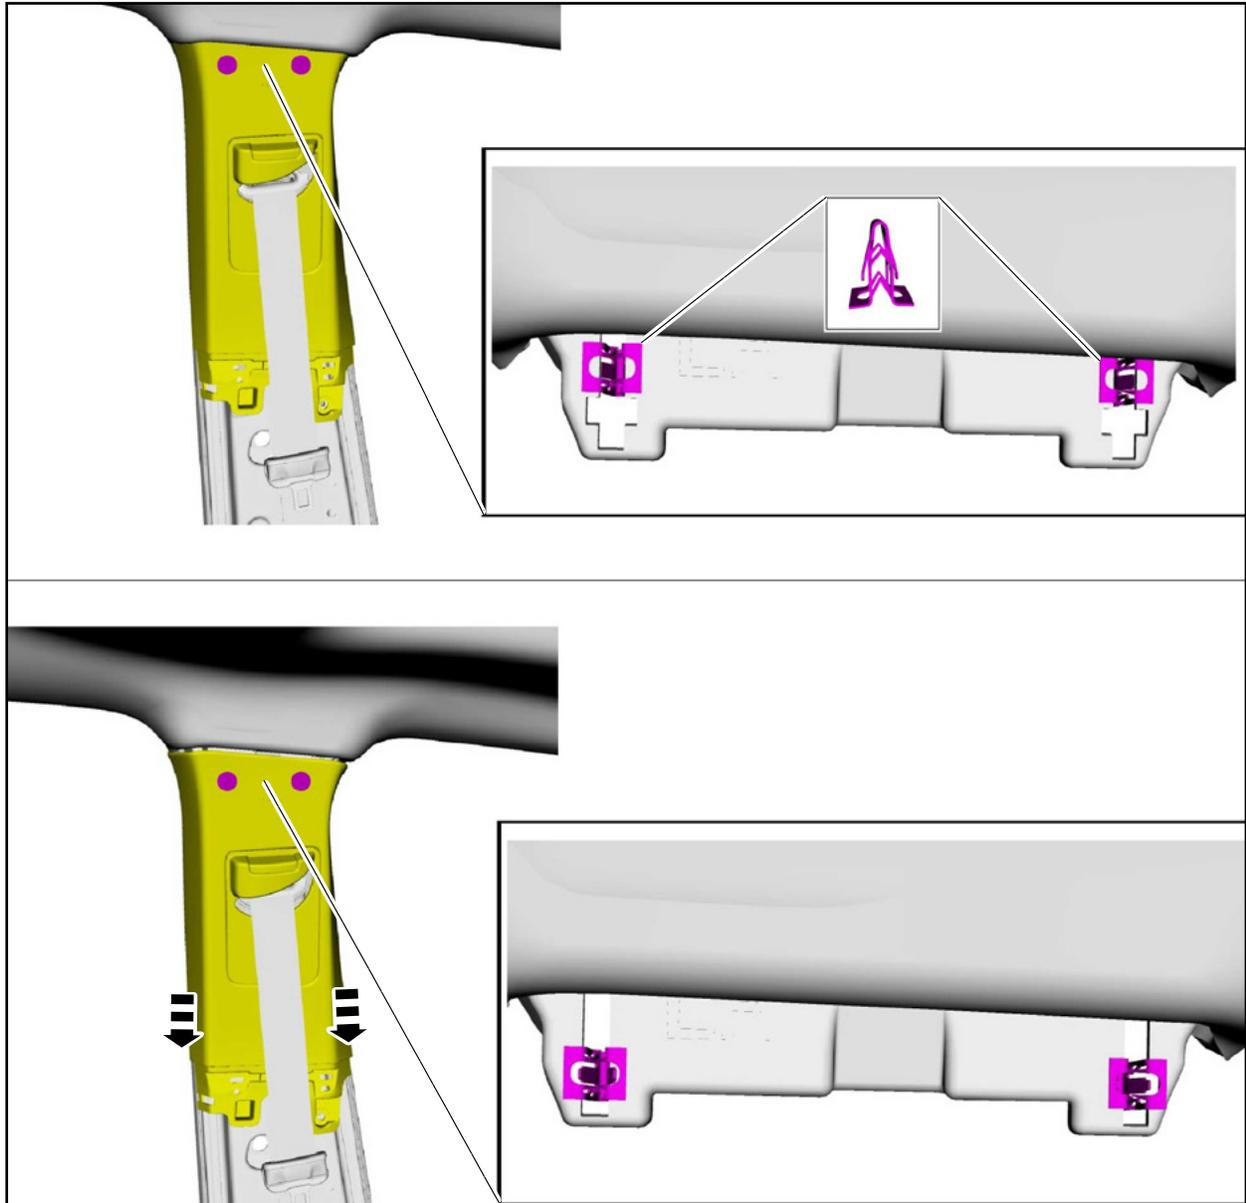

FIGURE 7
7. Slide the upper B-pillar trim panel down, aligning the clips to the slots in the sheet metal. See Figure 7.